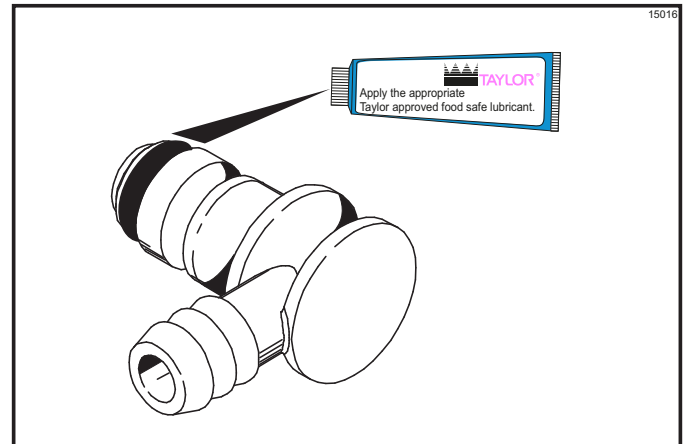

Figure 6-25
7. Slide the O-ring into the groove on the mix inlet fitting and lubricate the fitting as shown in Figure 6-25.